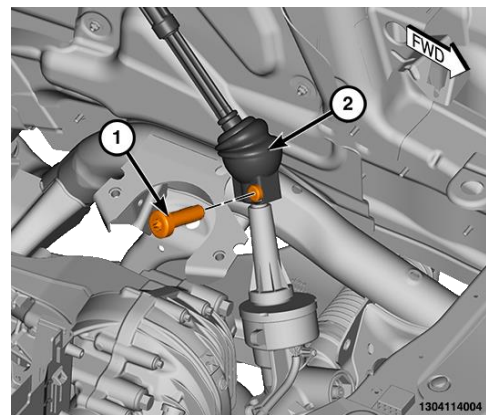

Figure 9 – Steering Shaft Coupler Pinch Bolt
17. Remove the steering shaft coupler pinch bolt (1) and disconnect the coupler (2) from the steering shaft. **Discard** the steering shaft coupler pinch bolt (Figure 9).